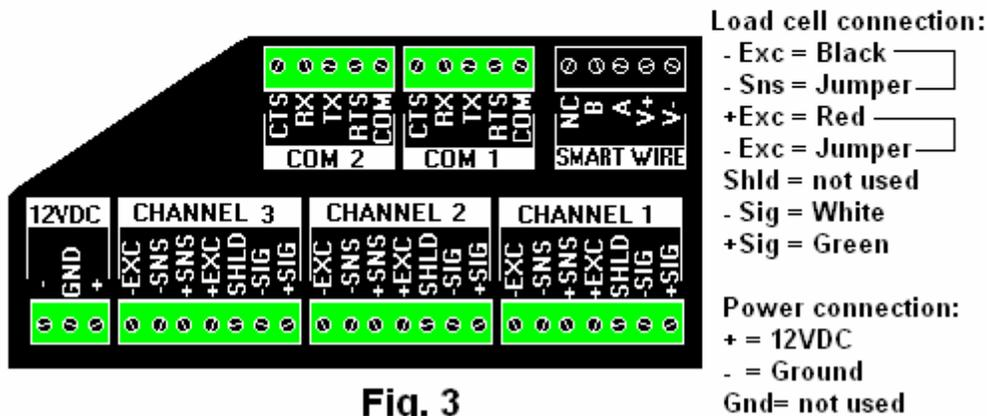

Fig. 3
-Check the 12VDC plug-in connection (Fig. 3) with a volt meter as well as for proper seating into the plug-in receptacle.